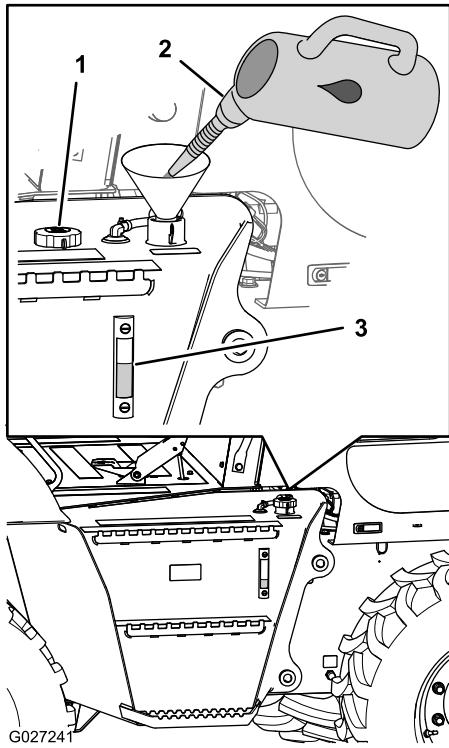

Figure 45
1. Check the hydraulic-fluid level in the sight glass located at the side of the hydraulic reservoir (Figure 45).
- 2. If the hydraulic-fluid level is not visible in the sight glass, remove the fill cap (Figure 45), add the specified hydraulic fluid until the fluid level is at the midpoint of the sight glass, and install the fill cap.